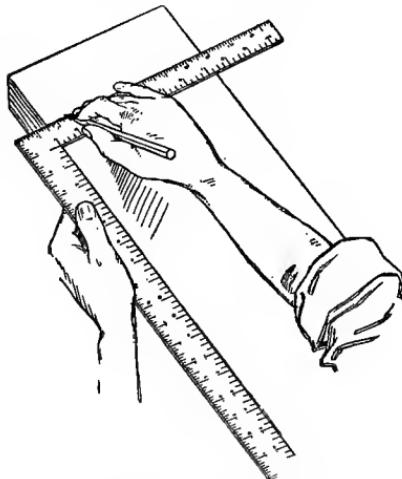

FIG. 145. -- How to Gauge with a Carpenter's Square and Pencil.
**Gauging with a Carpenter's Square and Pencil.** Figure 145